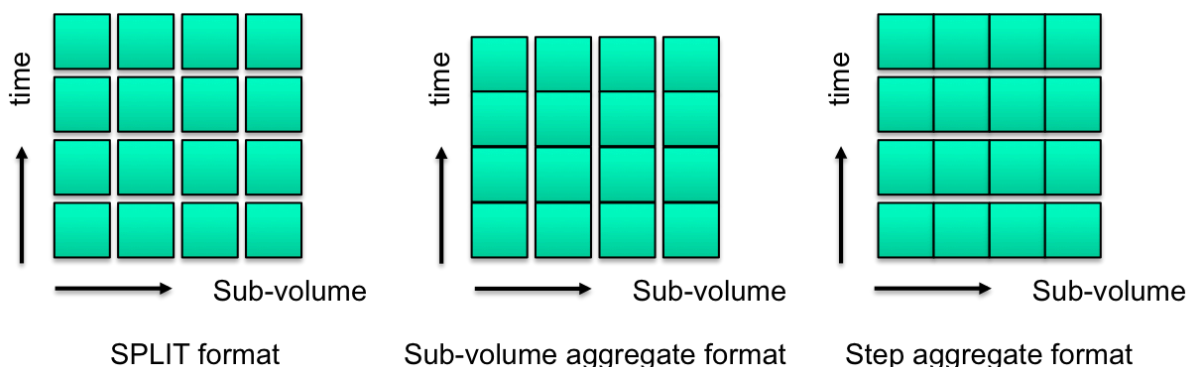

Figure4.3-1 Output file formats available for PBVR Filter
This section describes the file formats that are read or written by PBVR Filter. All binary data in input and output files are single precision, without a header or footer, and in little endian format. The following three file formats are available: (1) the split format (which actually make use of kvsml format), (2) the sub-volume aggregate format, and (3) the step aggregate format (Figure4.3-1). The split format generates independent files for each time step for each sub-volume. However, in this format, the number of files grows exponentially as the number of layers in the octree increases. This problem can be avoided by using either of the other two file formats. The sub-volume aggregate format aggregates files over different time steps (but for the same sub-volume) to a single file. Conversely, the step aggregate format aggregates files over different sub-volumes (for the same time step) to a single file. The following sections explain these three file formats in detail.